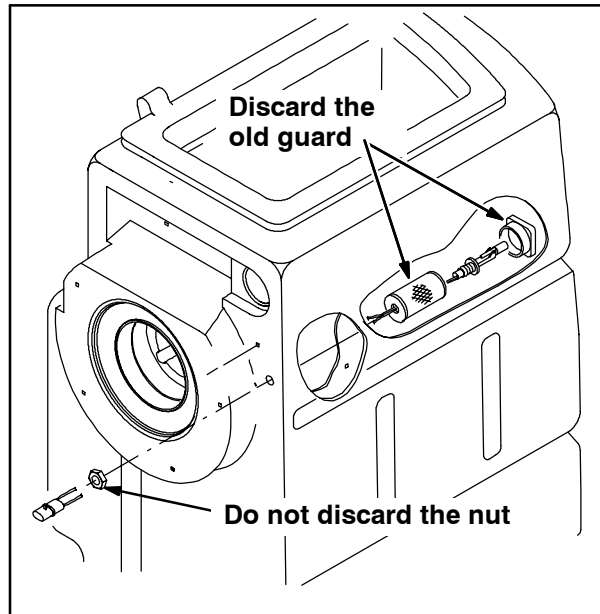

FIG. 2
10. Remove the nut from the float switch and pull the float switch and guard out from the recovery tank. **Do not** discard the nut since it is needed to reinstall the float switch. Discard the guard. Refer to Fig. 2.